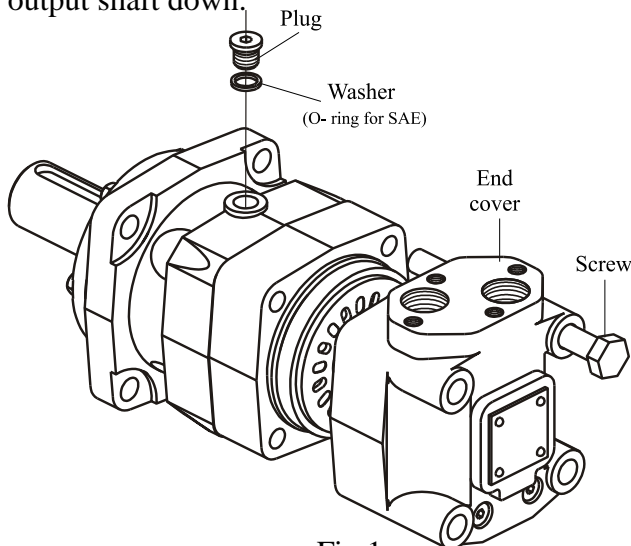

Fig.1
3. Unscrew screws using a S22 torque wrench. (see Figure 1)